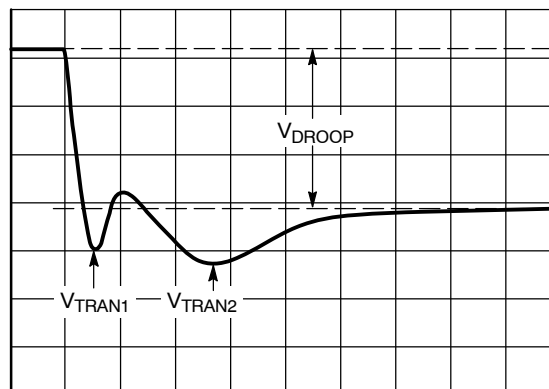

Figure 38. Transient Setting Waveform, Load Step
- With the dynamic load set at its maximum step size, expand the scope time scale to 2 $\mu\text{s}/\text{div}$ to 5 $\mu\text{s}/\text{div}$. This results in a waveform that may have two overshoots and one minor undershoot before achieving the final desired value after V_{DROOP} (see Figure 38).